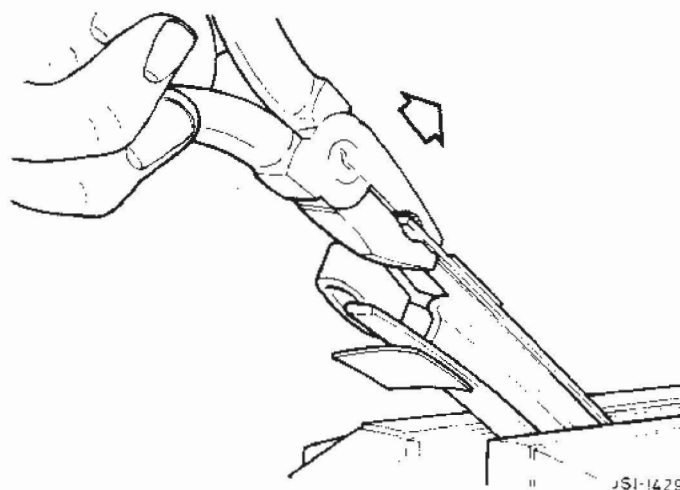

FIG 3
6. To open-up the channel, using soft face jaws, secure it firmly in a vice (Fig 3). Using a pair of pliers; equally bend each side of the channel outward until the increased channel width of 26.0 to 28.0 mm is achieved (A Fig 3).